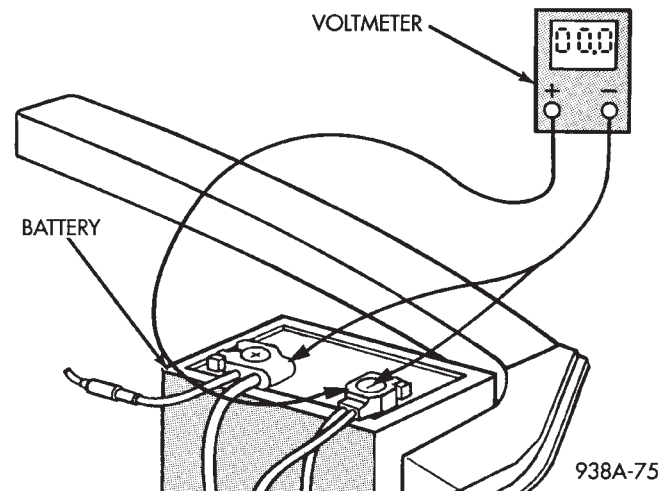

**Fig. 4 Battery Voltage Test**
(1) Start engine.
(2) With engine at operating temperature record battery voltage at engine speed of 1800 rpm with no other electrical loads. The battery voltage should not be more than 2.7 volts above base battery voltage. If battery voltage is higher than 2.7 volts, refer to Check For Overcharging (Fig. 4).
(3) Record battery voltage at engine speed of 2400 rpm with blower motor ON high and headlamps ON high beam. The battery voltage should be minimum of 0.4 volt above base battery voltage. If battery voltage is below 0.4 volt, refer to Check For Inadequate/low Charging.
(4) After output voltage tests are completed, turn OFF blower motor, head lamps and ignition switch.